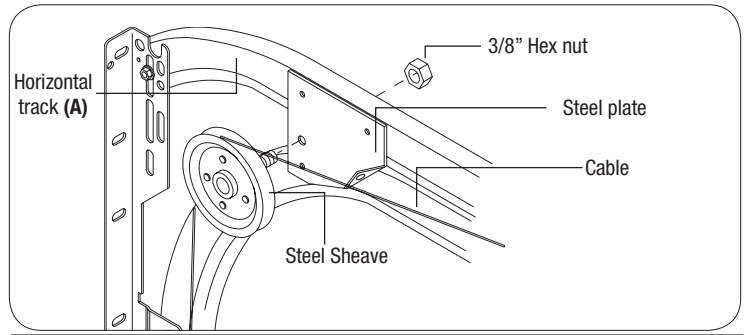

FIG. 11.1
Secure the studded sheave to the hole shown using (1) 3/8" hex nut. Repeat for the other side, then loop the counterbalance cables over each sheave, as shown in **FIG. 11.1**.